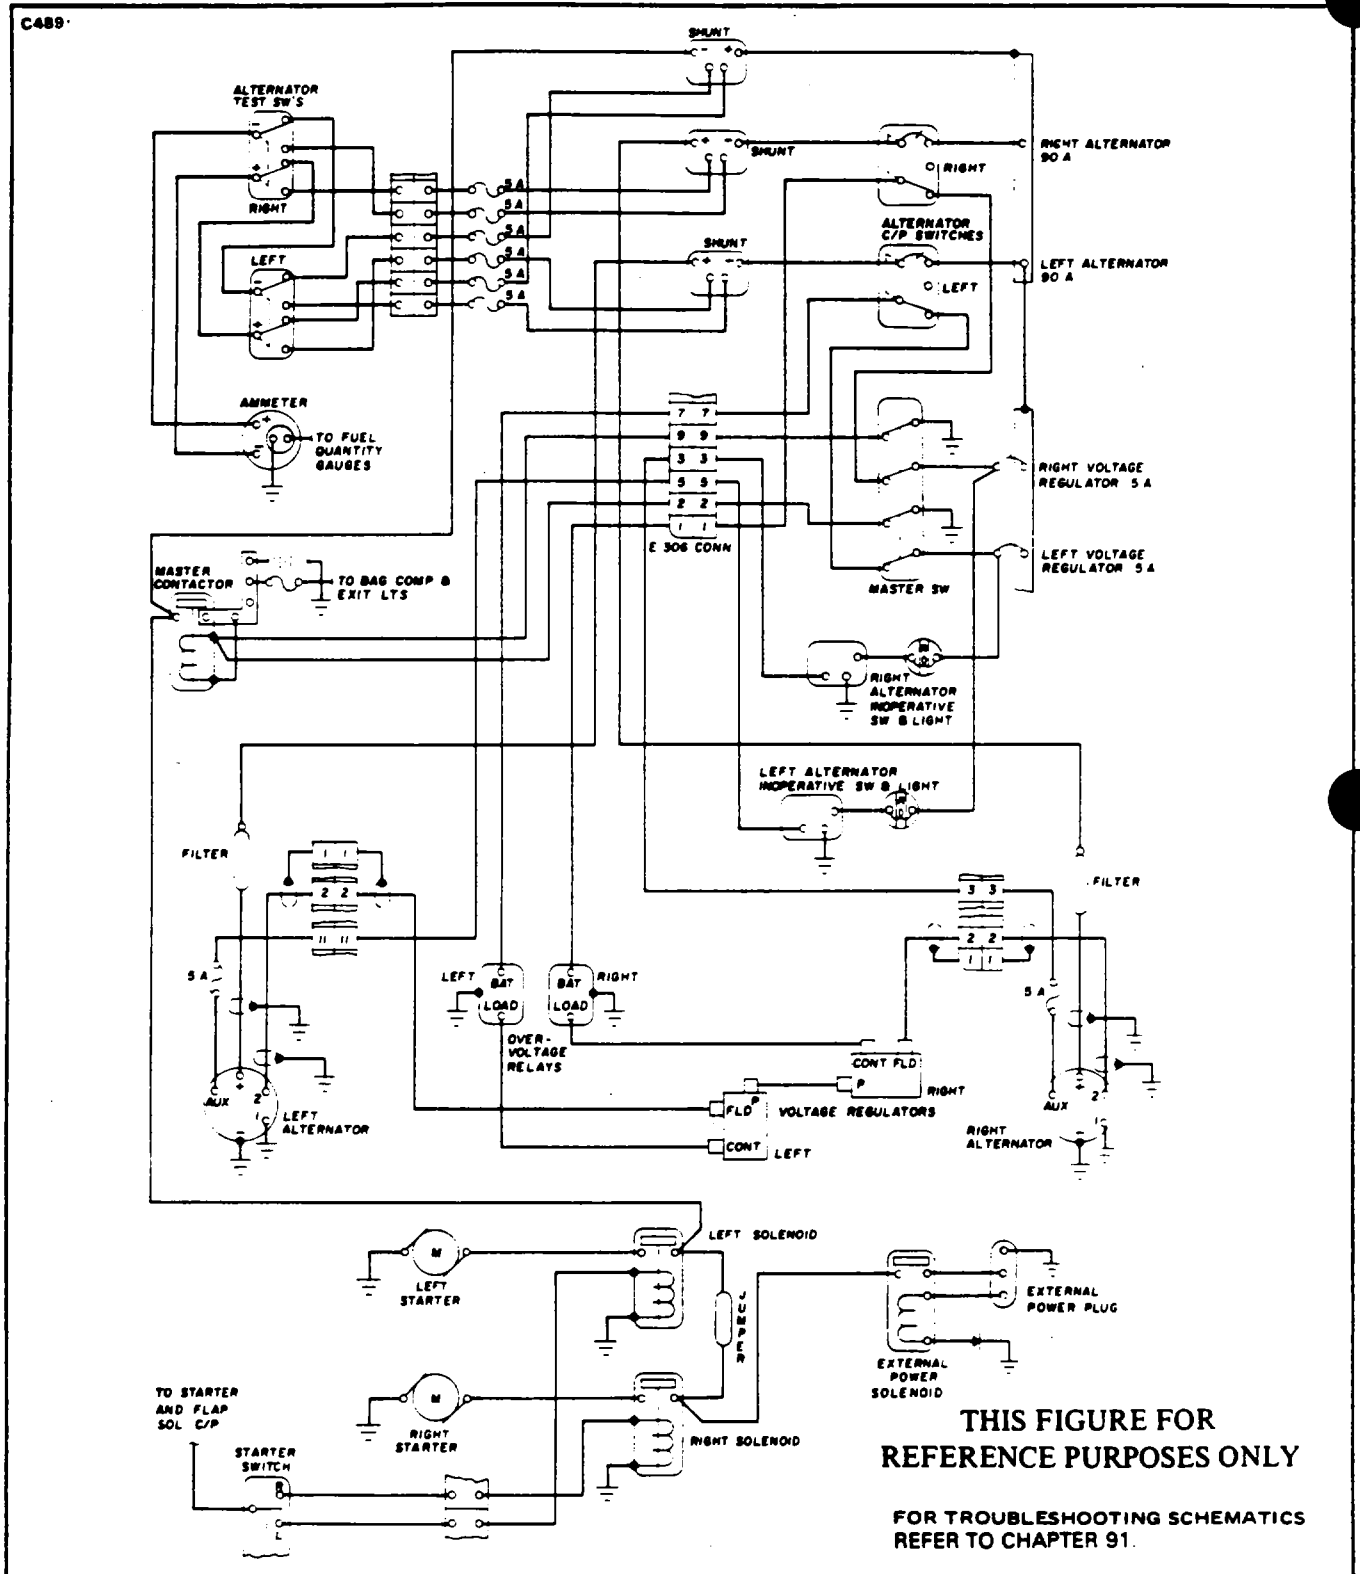

Figure 24-2. Alternator Paralleling System
The alternator paralleling system incorporates an ammeter which provides for an independent check of each alternator, as well as the charge/discharge current of the battery. In the event either ALTERNATOR INOPERATIVE light begins to glow or the ammeter check for either alternator fails to indicate an output, check the appropriate alternator circuit breaker switch, also the voltage regulator circuit breaker. If the circuit breakers are in their normal operating position, a further check of the alternator system should be accomplished. (Refer to Figure 24-2.)
7. Should there be no indication of voltage, trace back through the output circuit until voltage is indicated. (Refer to Figure 24-2.) A component that does not indicate voltage at both its input and output terminals should be replaced.